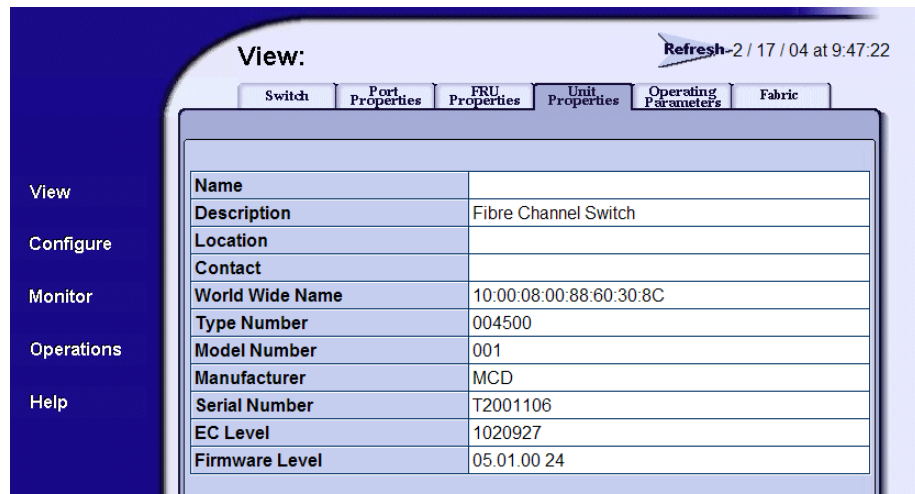

Figure 29: Unit Properties tab view
2. Choose the **Unit Properties** tab. The **Unit Properties** tab view displays (Figure 29) showing product properties.